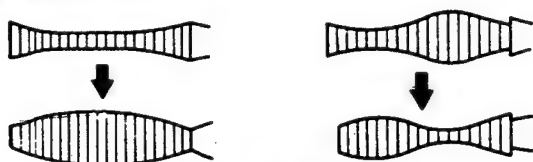

Fig. 8 Abnormal variation of the waveform
7. If the envelope varies as shown in Fig. 8 adjustment of the S, T-guide rollers may be upset, so perform the adjustment again.